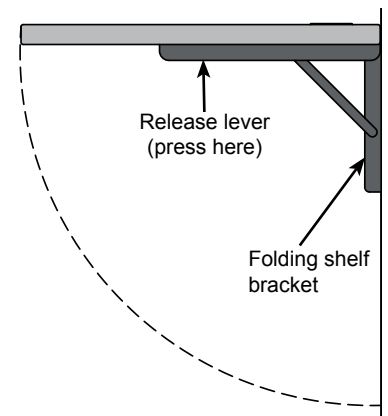

Figure 4A
2. Extend and lock the folding shelf brackets into the horizontal position. **Figure 4A.**
The shelf will automatically lock into place when lifted into the horizontal position with the levers released. **Figure 4A.** To lower or flip-up the shelf, press and hold the levers under each folding shelf bracket at the same time while slowly lowering or raising the shelf. Do not exceed a maximum of 35 lb of weight on the shelf. Do not move the unit while the shelf is in the horizontal position.